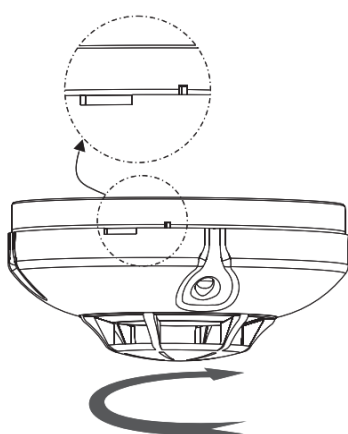
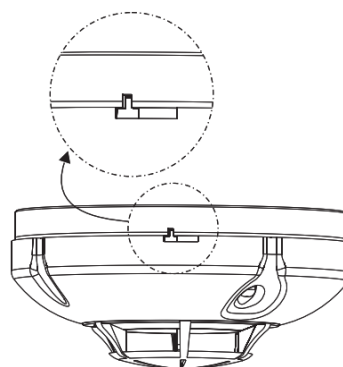

fig.3.1
fig.3.2
It is recommended cable shoes to be used. The fire detector is placed on the base (fig.1,pos.1). It is rotated clockwise until reaching the guiding grooves (fig.1,pos.2). It is rotated until rest (fig.3.1). The slots of the base and the body should match (fig.3.2).